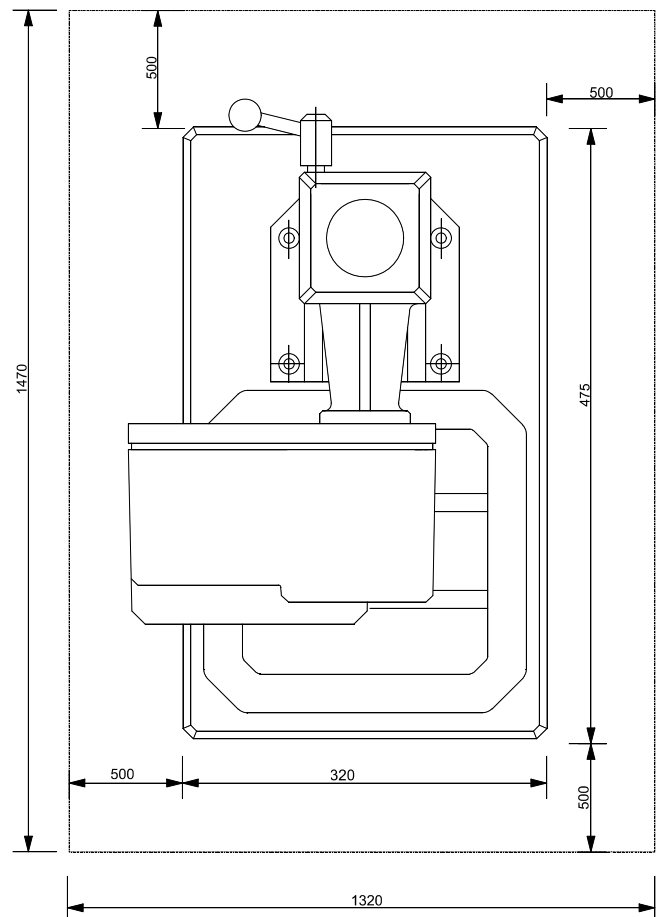

Fig 3-1 Erection plan, area required (mm)
1. Supporting surface specifications (see Fig 3-1):